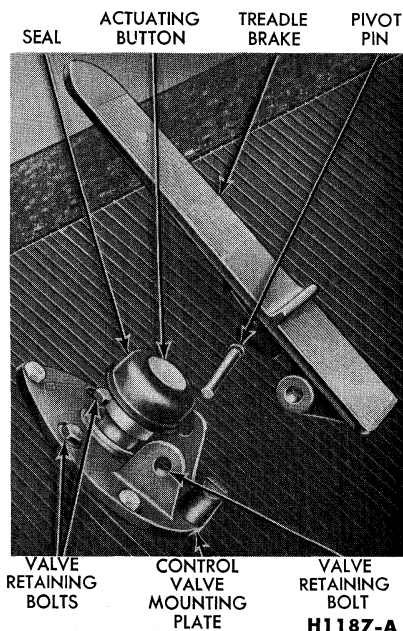

FIG. 18—Brake Treadle and Mounting Plate
4. Remove the three control valve retaining bolts (Fig. 18).
2. Remove the actuating button and the rubber seal from the control valve mounting plate to facilitate the positioning of the new valve (Fig. 18).